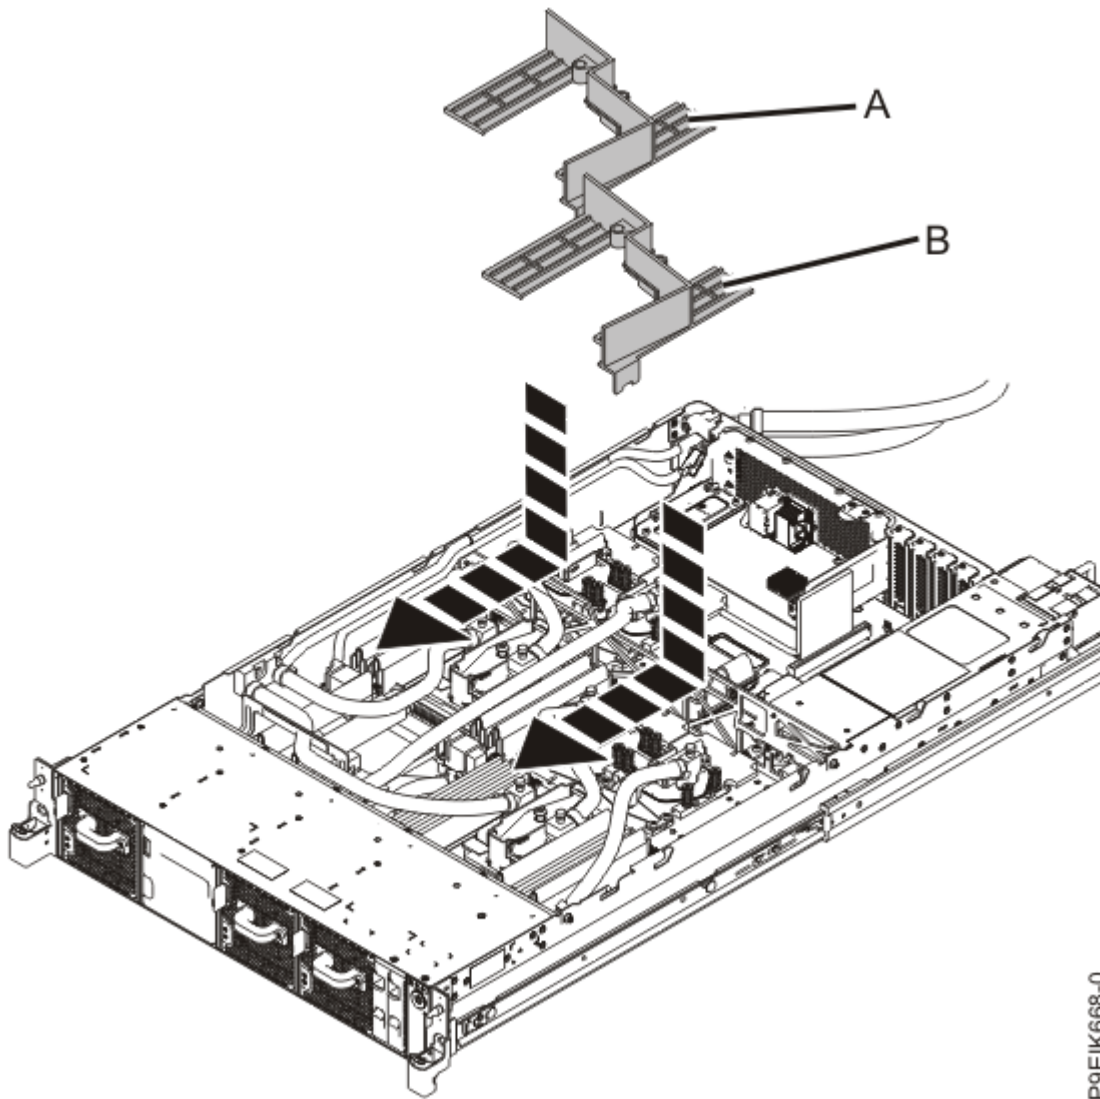

Figure 97. Replacing the memory air baffles
7. Replace the air baffles **(A)** and **(B)** as shown in Figure 97 on page 107.